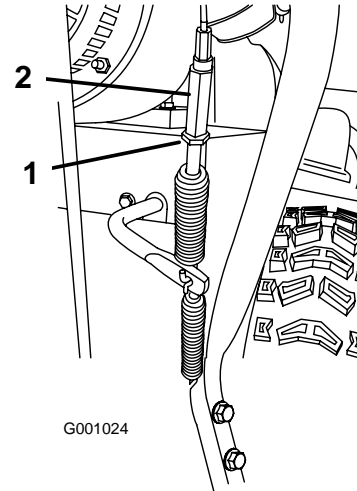

Figure 48
5. Loosen the jam nut (Figure 48).
6. Loosen or tighten the turnbuckle that adjusts the tension on the cable (Figure 48).